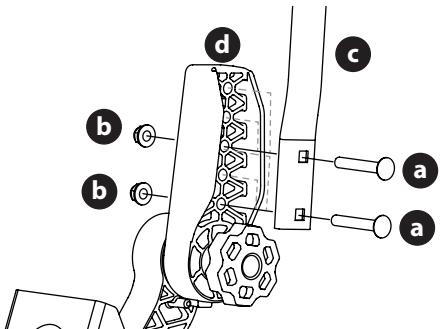

Figure 8
1. Remove the two carriage screws (a) and two flange lock nuts (b) that secure the lapbar drive control lever (c) to the upper handle adjuster (d) (Figure 8).
2. Move the lapbar drive control lever into one of three available heights and secure in place with the carriage screws and flange lock nuts (Figure 8).
4. If the lapbars do not line up after making the knob adjustment, loosen nuts (b), align lapbars and re-tighten nuts. Once this fine adjustment is made, the lapbars will align when using the knob adjustment (Figure 8).